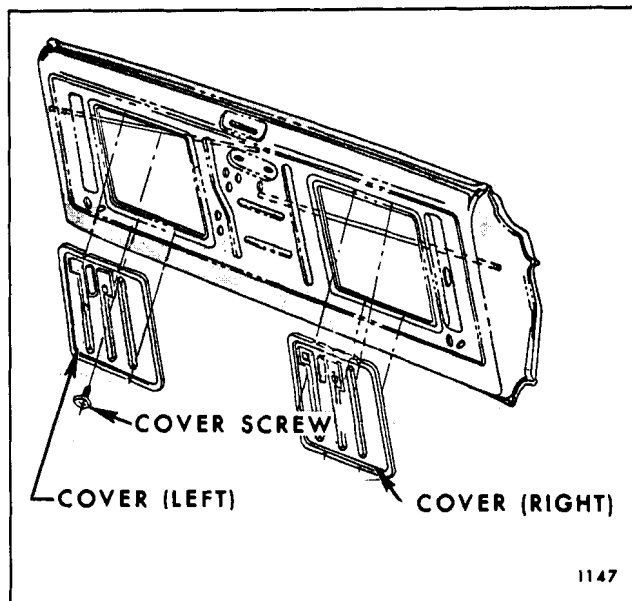

Fig. 9-31-Tail Gate Inner Panel Access Hole Cover
2. Remove upper screws securing right and left access hole covers to tail gate inner panel and remove covers by sliding upward (See Fig. 9-31).